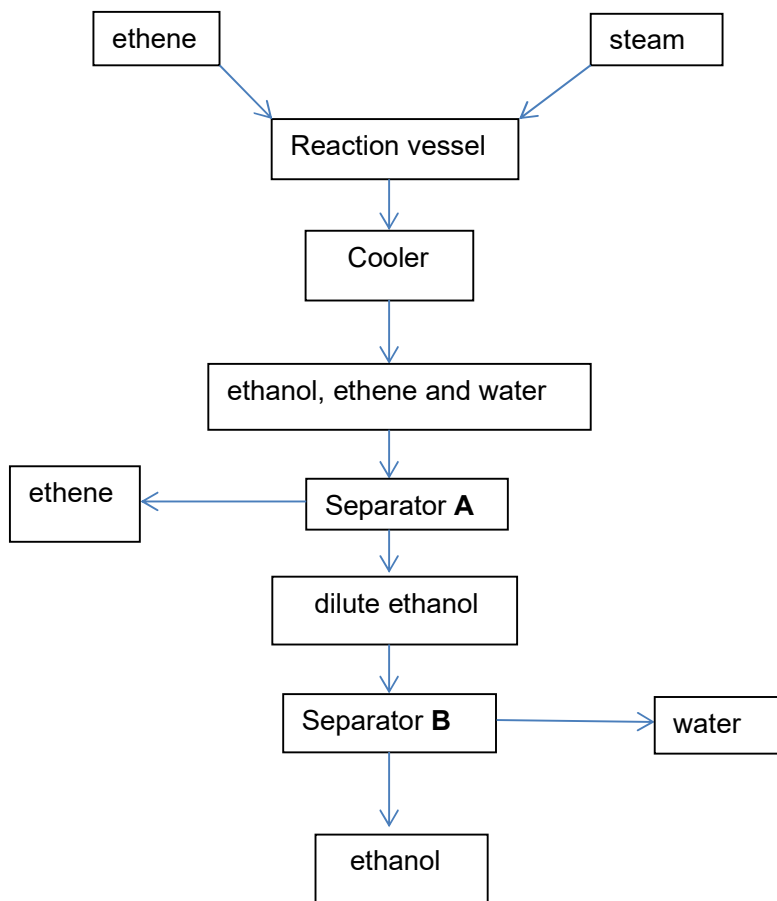

Fig 9.1
- 9 An industrial method for the production of ethanol, $\text{C}_2\text{H}_5\text{OH}$, is outlined in **Fig 9.1**.